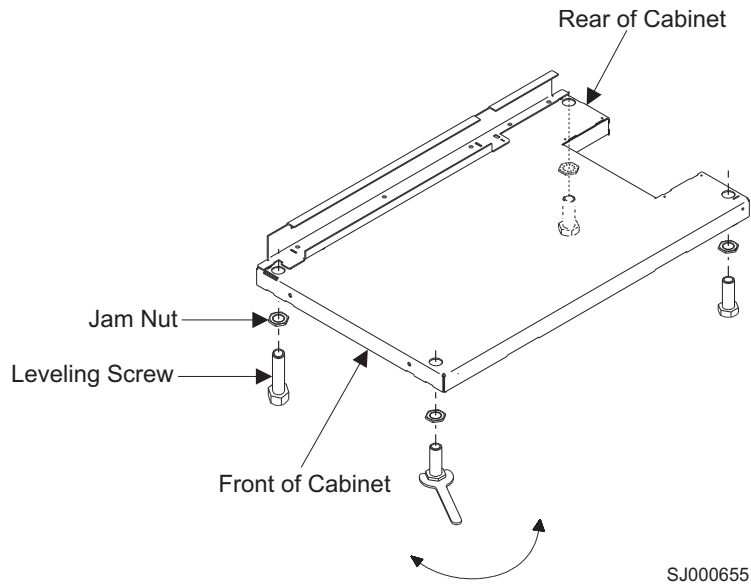

Figure 66. Adjusting the leveling feet
1. Loosen the jam nut on each leveling foot by turning the nut counterclockwise, away from the bottom of the rack. See Figure 66 on page 199.